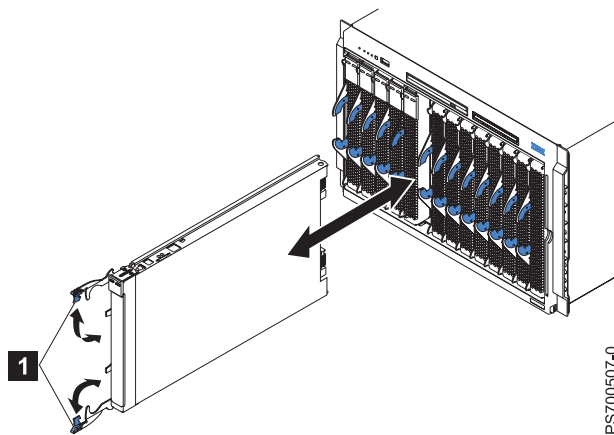

Figure 5. Removing the blade server from the BladeCenter unit
5. Open the two release handles, as shown by **1** in Figure 5. The blade server moves out of the bay approximately 0.6 cm (0.25 inch).